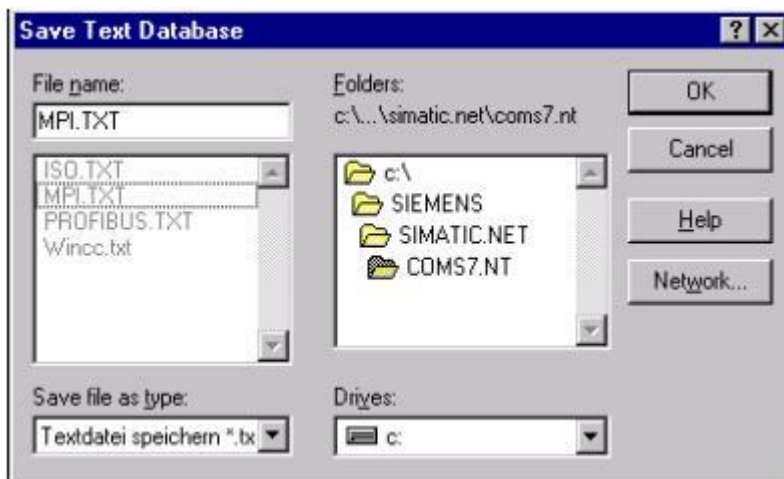

FIGURE 3: THE SAVE TEXT DATABASE DIALOG BOX
4. From the Save Text Database dialog box that appears, select the "\*.txt" option from the Save file as type: drop-down menu (Figure 3).